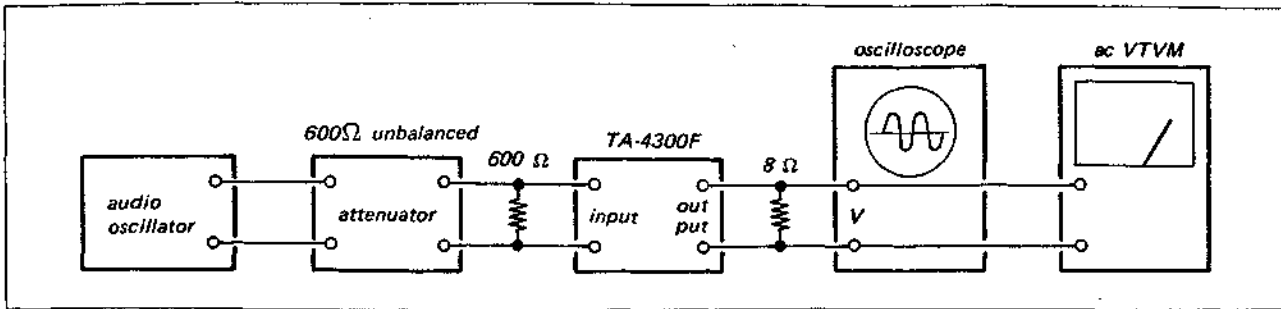

Fig. 3-1 Level check test setup
With the equipment connected as shown in Fig. 3-1, follow the procedures given in Table 3-1.
Connect the equipment as shown in Fig. 3-1. Then, set the controls and switches as follows:
1. With the equipment connected as shown in Fig. 3-1, feed a 1 kHz, 2 dB signal to the INPUT connectors.
1. With the equipment connected as shown in Fig. 3-1, adjust the LOW LEVEL control to obtain a 0 dB output signal level when supplying a 20 Hz, +2 dB signal and the BASS BOOST switch (S2) is set to 0 dB.
1. With the equipment connected as shown in Fig. 3-1, check the output level while changing the input signal frequency as directed in the Table 3-6.